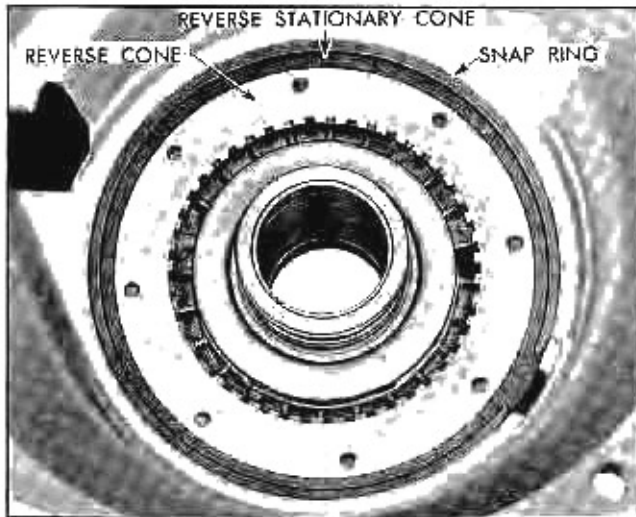

Fig. 109 Reverse Cone in Case
10. Install large reverse cone snap ring into snap ring groove in case with flat ends of snap ring up, and ring gap at open segment of ring groove in case (Fig. 109).